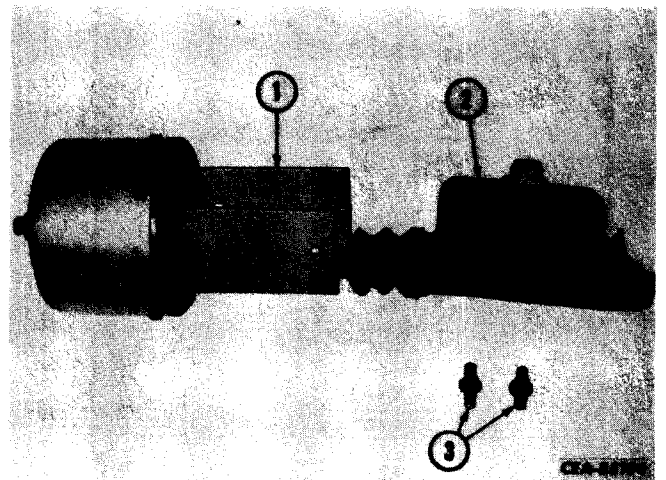

Figure 13-30
Remove mounting studs (3, Fig. 13-30) that attach hydraulic cylinder (2) to bracket (1). Remove hydraulic cylinder.
Place hydraulic cylinder (2, Fig. 13-30) in bracket (1). Be certain that plunger on air cylinder fits in metal grommet in boot on hydraulic cylinder. Install and tighten mounting studs (3).